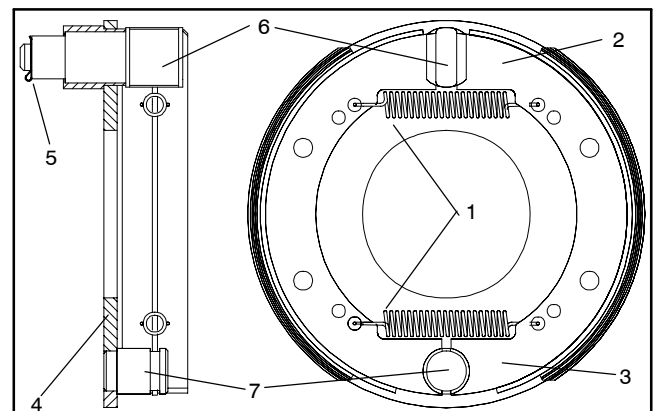

Figure 12
9. Disassemble brake assembly as follows (Fig. 12):
2. Assemble brake assembly as follows (Fig. 12):